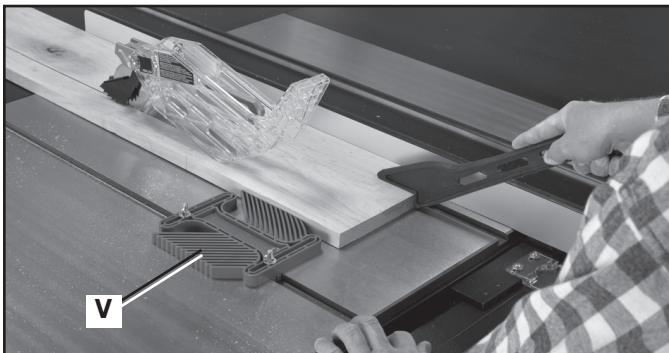

FIG. 76
If you are using the DELTA accessory featherboard, the one on the table (V) Fig. 76 can be inserted and tightened against the appropriate miter slot. If you use a featherboard on top (not shown) it can be screwed into a board that is clamped to the fence. Be sure all featherboards are tightly fastened before operations.